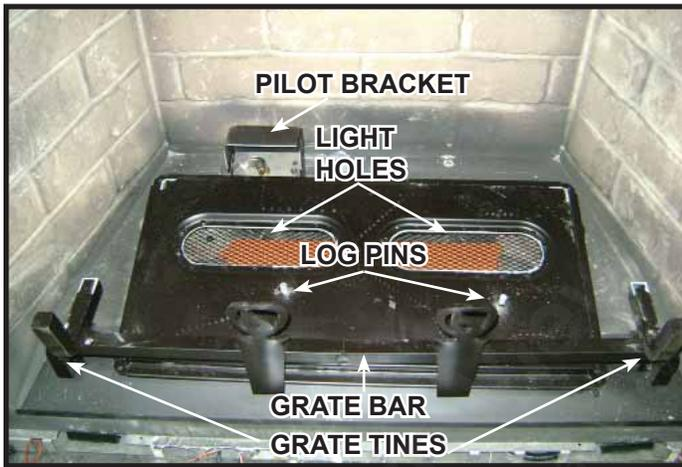
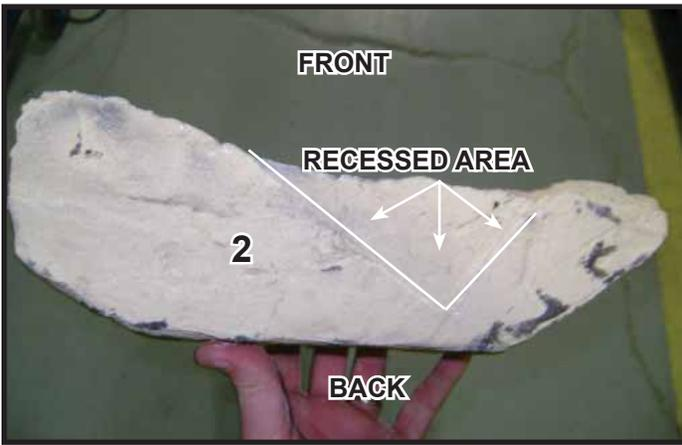

Figure 2. Reference Points for Log Placement
Figure 6. Log #2
**Log #1 (SRV2221-703):** Position Log #1 as shown in Figure 4. See Figure 2 for additional points of reference. Center the log over the pilot bracket. Pull the log forward until contact is made with burner.
**Log #2 (SRV2221-701):** Position Log #2 as shown in Figure 5. See Figure 2 and Figure 6 for additional points of reference. The recessed area on the bottom of the log and the back right corner of the burner top mate.